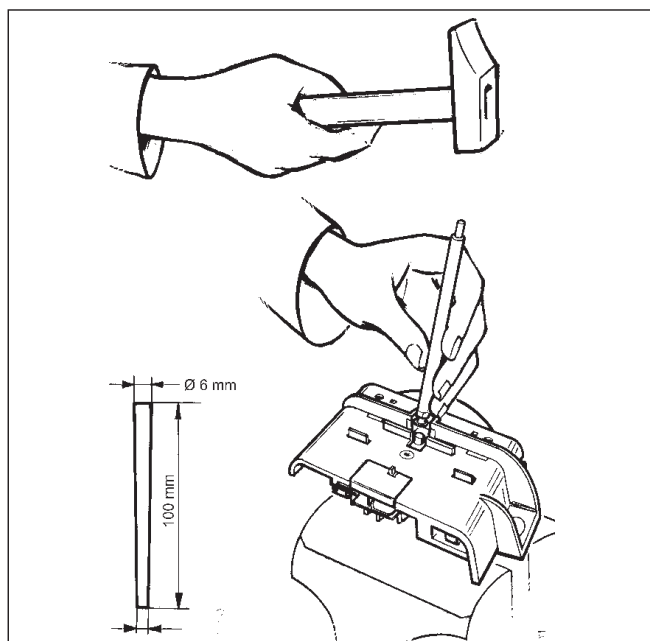

Fig. 21
- Next remove taper pin as per Fig 21.